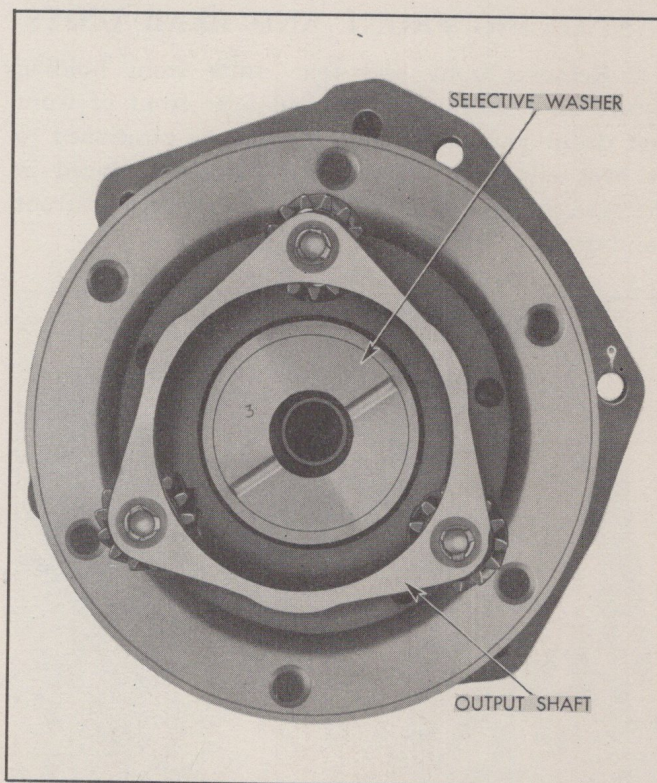

Fig. 292—Selective Washer in Place
4. Install correct size selective washer in counterbore of output shaft and retain in place with petrolatum (Fig. 292).